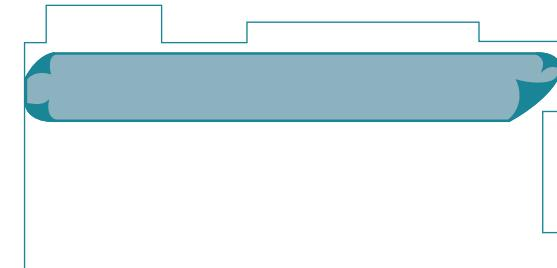

Figure 1 Lining up the First Sheet
- Adjust the lie of the sheet so that the inner edge is parallel with the axis of the room (Fig 1).